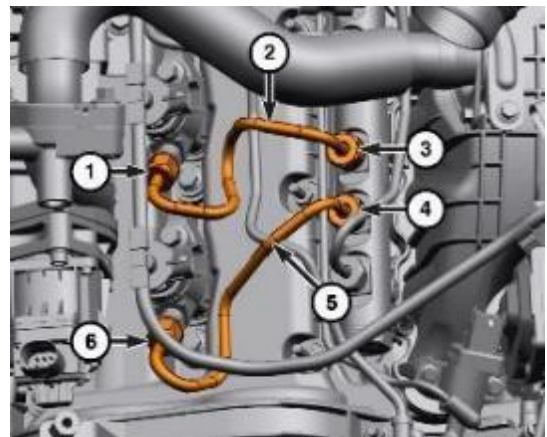

Figure 8 - Right-Side Fuel Tubes
11. Remove and discard the right-side fuel tubes (5) and (2) from fuel injectors No. 1 and 2 (Figure 8).
42. Install the **NEW** right-side fuel tubes (5) and (2) to the fuel injectors No. 1 and 2 and tighten the union nuts finger tight (Figure 8).
- Tighten the union nut (3) and (4) to 5 N·m (44 in. lbs.) plus an additional 75 degrees turn.
- Tighten the union nut (1) and (6) to 11 N·m (8 ft. lbs.) plus an additional 75 degrees turn.